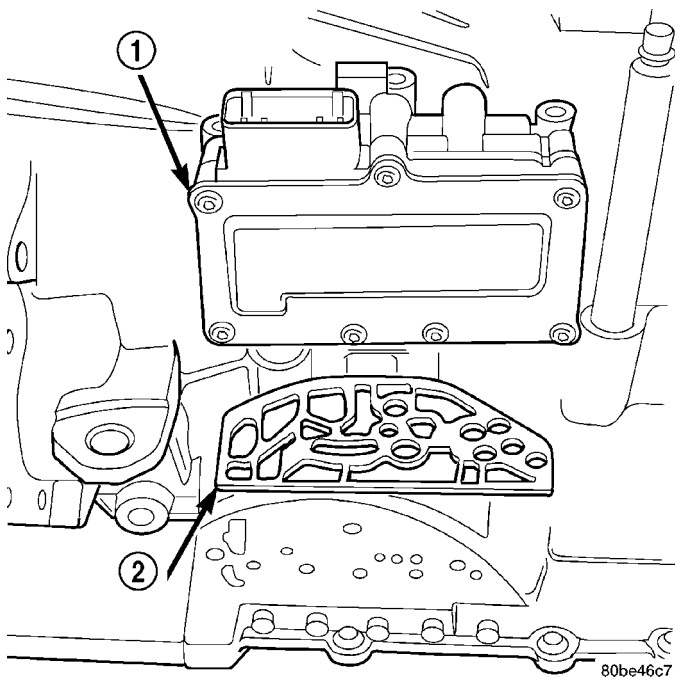

Fig. 15 Solenoid/Pressure Switch Assembly and Gasket
(1) Remove input and output speed sensors.
(2) Remove three (3) solenoid/pressure switch assembly-to-case bolts.
(3) Remove solenoid/pressure switch assembly and gasket (Fig. 15).